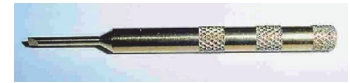

Figure 10.4. Adjustment screwdriver
1. Locate the small adjustment screwdriver in the SOS kit (Figure 10.4).